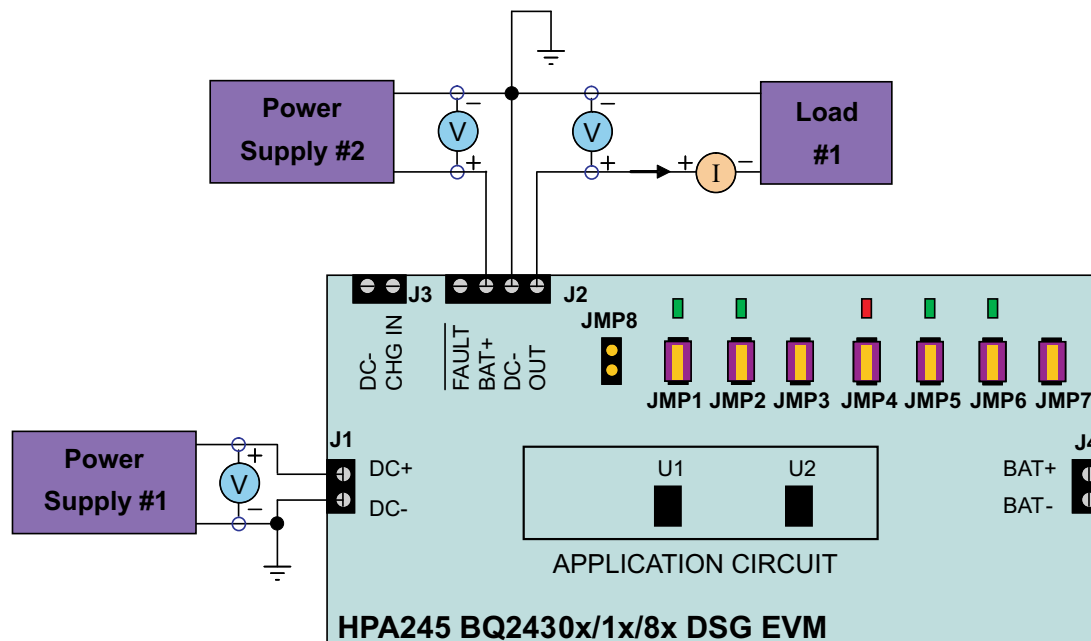

Figure 1. Original Test Setup for HPA245 (bq2430x/1x/8x DSG EVM)
- (H) JMP1: ON, JMP2: ON, JMP3: ON, JMP4: ON, JMP5: ON, JMP6: ON, JMP7: ON, JMP8: OFF.
- After the preceding steps, the test setup for HPA245 (bq2430x/1x/8x DSG EVM) is shown in Figure 1.